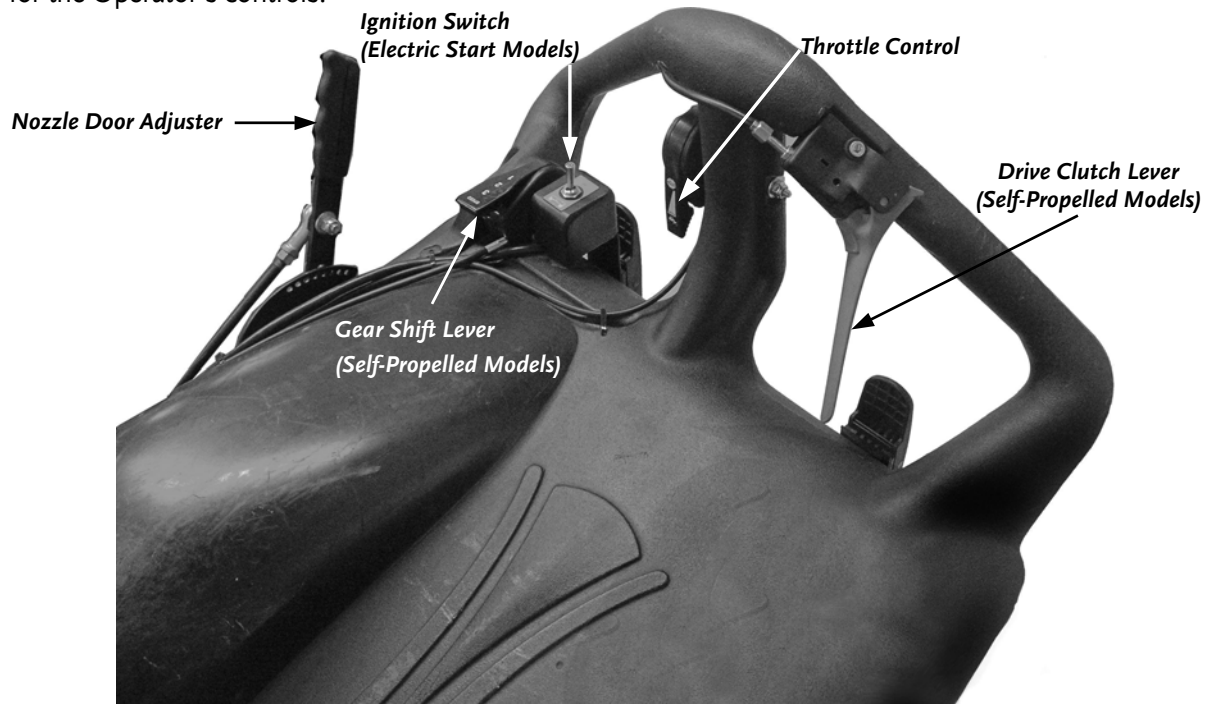

Figure 8
The Operator's Position is at the rear of the machine between the Handlebars. The Operator should stand in a position to grasp both Handlebars firmly, which allows sufficient leverage to steer the machine. See **Figure 8** for the Operator's controls.
1. Push the Throttle Control Lever (**Figure 8** on page 17) all the way forward to the fast (Rabbit) position.
Move the Throttle (**Figure 8** on page 17) all the way back to the STOP position.
3. To stop and shut down the machine, release the Drive Clutch Lever to disengage the Wheel Drive and pull all the way back on the Throttle Control Lever (**Figure 8** on page 17) to the STOP position.